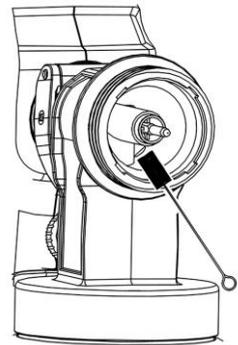

Fig. 17
13. Take special care when cleaning the interstices on the needle (Fig. 17).